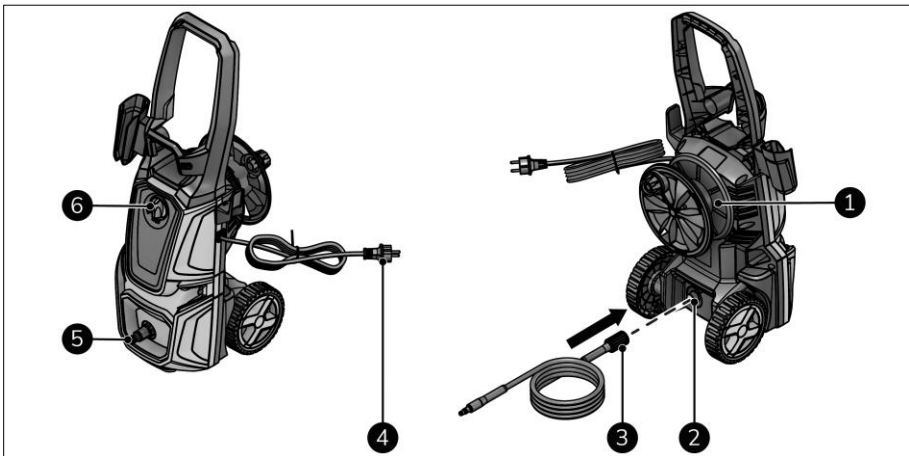

Figure 10
2. Make sure the ON(I)/OFF(O) switch is in the OFF(O) position (Figure 10, pos. 6).
3. Place the power plug (Figure 10, pos. 4) into a socket that is easily accessible.
4. For the first use only: remove the protective cap from the high-pressure water outlet (Figure 10, pos. 2).
5. Unroll the high-pressure water hose from the hose reel (Figure 10, pos. 1).
6. Screw the high-pressure hose (Figure 10, pos. 3) to the high-pressure water outlet.
7. Connect the water supply to the device (Figure 10, pos. 5).